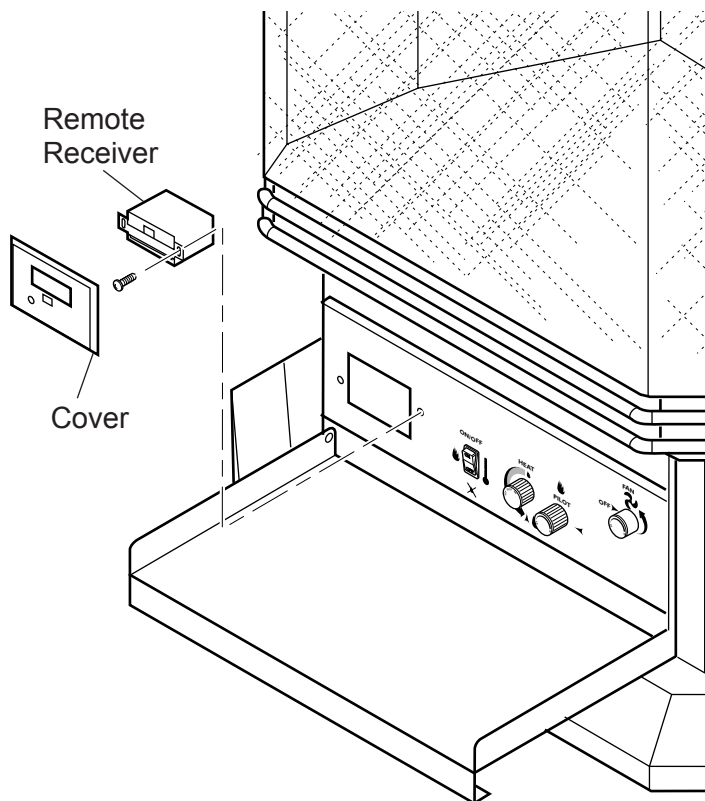

Figure 6 - Installing Remote Receiver
1. Remove cover on control panel to show opening for remote receiver. See Figure 6.
6. Connect the connectors to the two .25" male connectors located on the left side when facing the unit (Figure 6). Do not let the wires touch the grate or burners.
7. Slide remote receiver in the opening of control panel. Use two screws provided to attach remote receiver to the control panel. See Figure 6.
8. Replace cover with cover supplied with remote. See Figure 6.